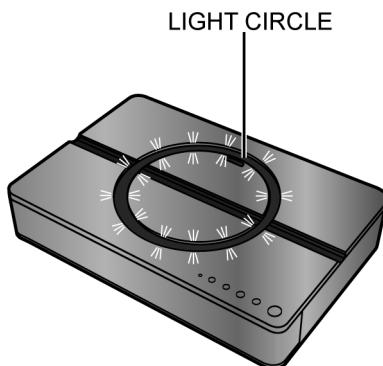

Figure 7-2
Step 3 : LIGHT CIRCLE start blinking with 250ms (Refer to Figure 7-2) .